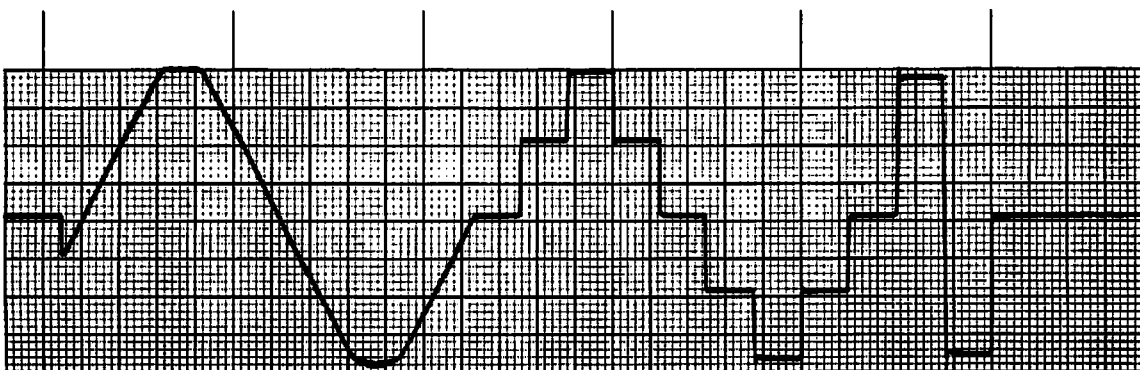

Figure 3-23. Service Mode Test Pattern, Recorder.
- (c) The unit should then display a test pattern on the CRT display, the Recorder, and the 1 V ECG V output as shown in Figure 3-23.